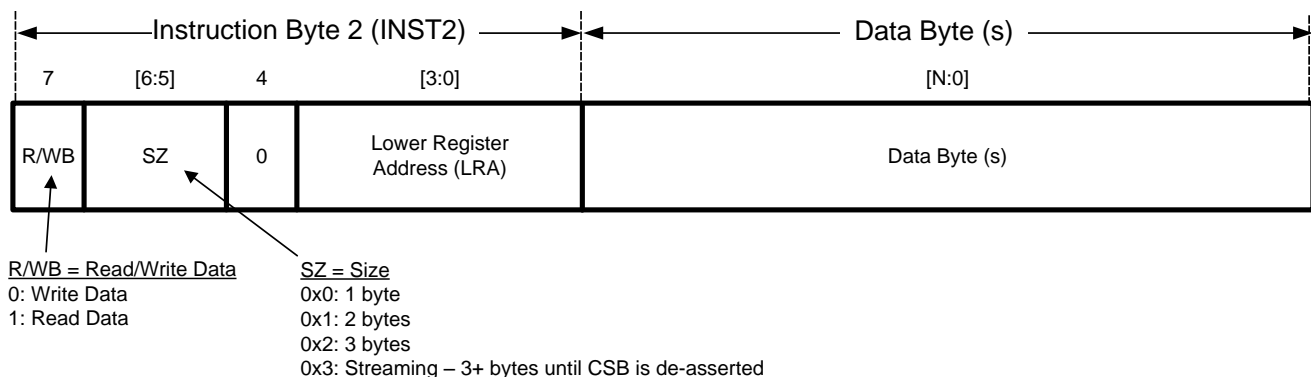

Figure 51. Register Read/Write Protocol
Figure 51 shows the protocol how to write to or read from a register.
To stream, write 0x3 to INST2's SZ bits as seen in Figure 51. To select the stream type, program the SPI_STREAMCN: STRM_TYPE bit. The STRM_RANGE can also be programmed in the same register.
8. Follow the register read/write protocol (Figure 51) to capture ADC_DOUT from CH0.